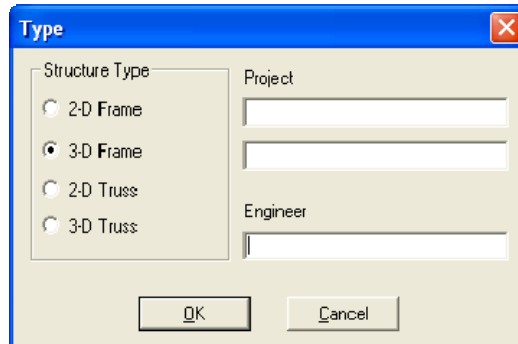

Figure 3-10 Type dialog box
- From the Define menu, select Type. The dialog box of Figure 3-10 appears.